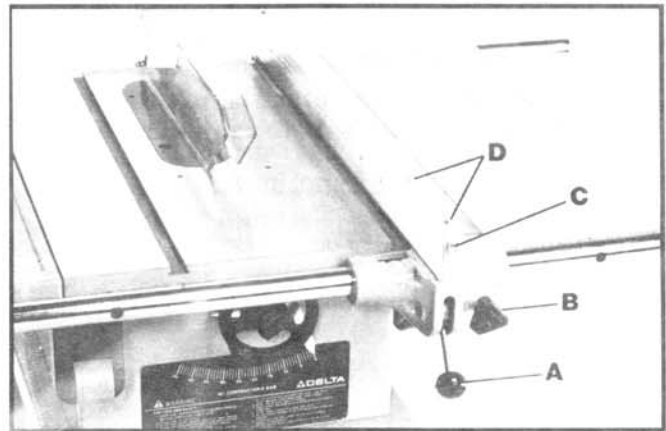

Fig. 48
1. To move the rip fence, raise the lock handle (A) Fig. 48, as far as it will go and move the fence to the desired position on the table. For fine movement of the rip fence, raise the clamp lever (A) Fig. 48, as far as it will go and push in and turn the "micro-set" knob (B).
2. When the lock handle (A) Fig. 48, is all the way down, clamping action on the front and rear guide rails should be equal. If clamping action on the rear guide rail is more or less than the clamping action on the front guide rail, an adjustment of the rear clamp hook is made by turning screw (C) Fig. 48. Turning the screw (C) clockwise will increase tension, and turning it counterclockwise will decrease tension. When lowering clamp lever (A) slowly, you will notice clamp action on front guide rail first, and as lever is moved downward to its lowest position, clamp action will take place on rear guide rail.
4. Position the fence at one edge of the miter gage slot, as shown in Fig. 48. Clamp the fence to the guide rails by pushing the lock handle (A) to the down position. The edge of the fence should then line up parallel with the miter gage slot. If an adjustment is necessary, proceed as follows:
5. Loosen the two screws (D) Fig. 48, and move the rear end of the fence until the fence is parallel to the miter gage slot. Then tighten the two screws (D).